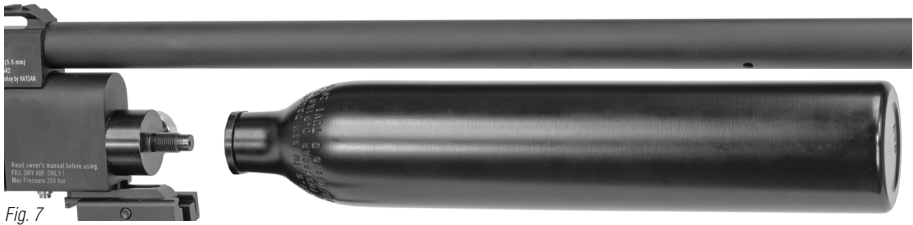

Fig. 7
- Finish unscrewing the bottle to remove it. **(Fig. 7)**